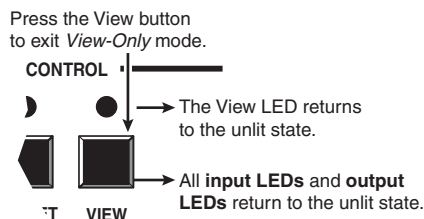

Figure 3-32 — Press the View button to exit View-Only mode
7. Press and release the View button to exit *View-Only* mode (figure 3-32).